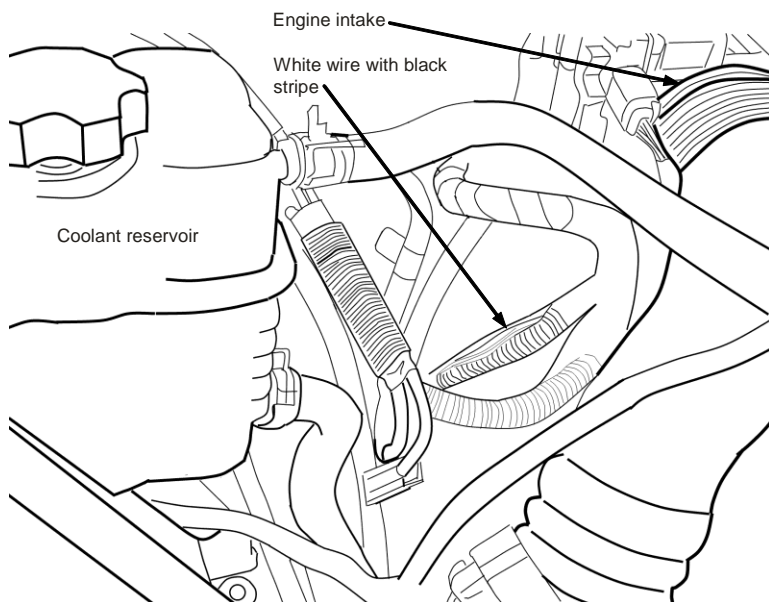

Figure 2.2
- ☐ Locate the wiring harness below the engine intake which runs to the bottom of the passenger side of the engine bay. (Figure 2.2)